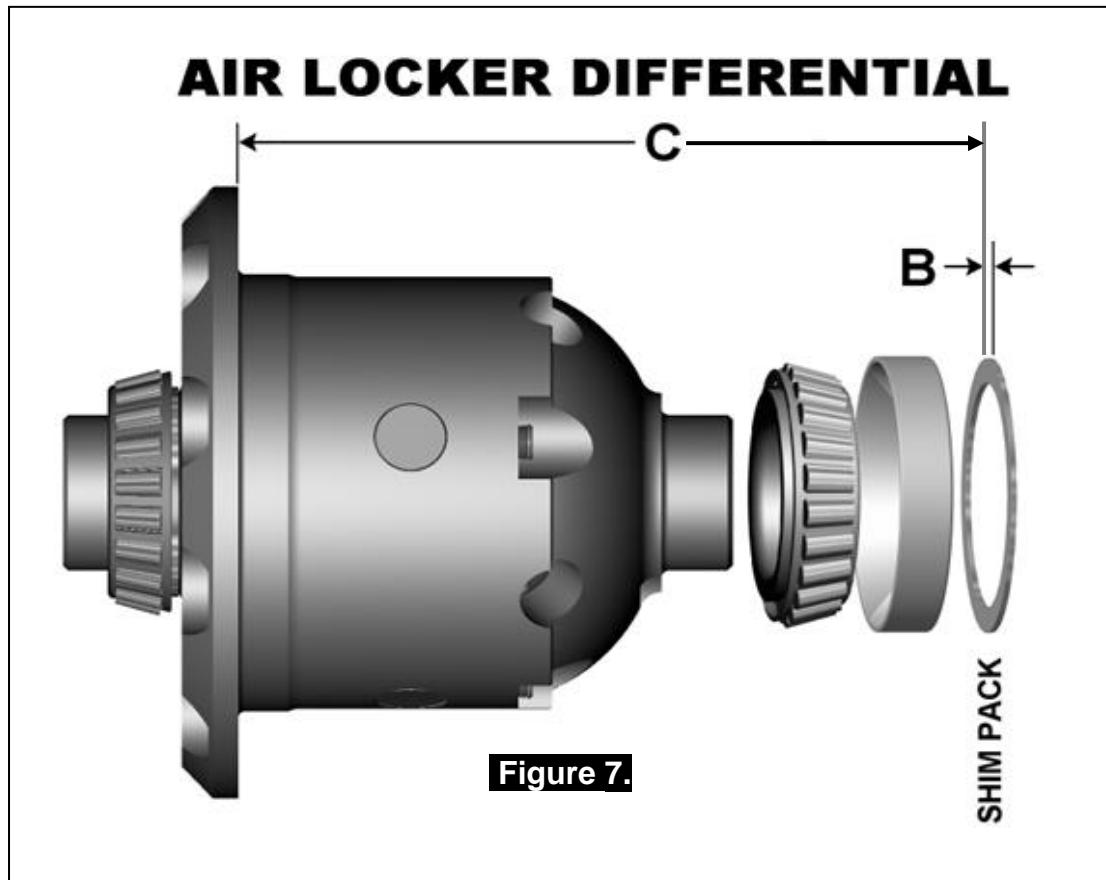
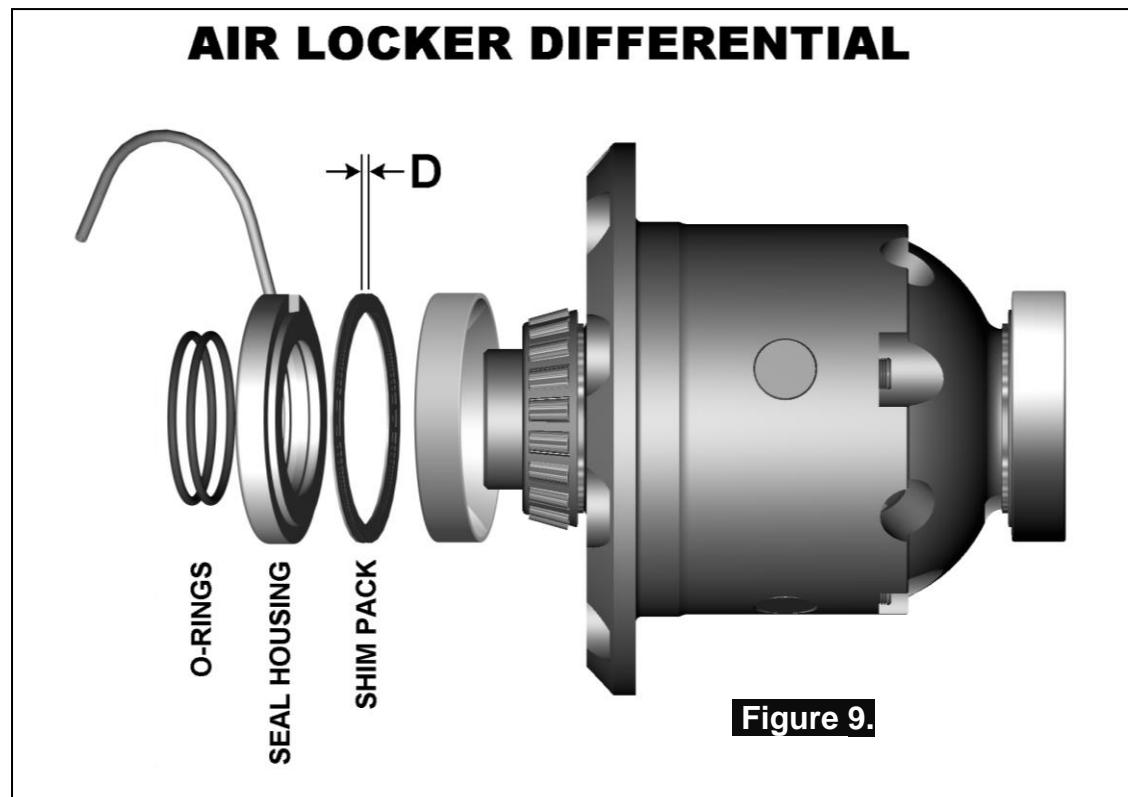

Figure 7.
Figure 9.
- Assemble the new bearing cup onto the right-hand side of the *Air Locker* (as shown in Fig. 7.), and measure the distance from the
In order to pre-load the tapered roller bearings in your *Air Locker*, measurements need to be taken so that a value can be calculated for the shim thickness 'D' in Figure 9.
- Add the specified pre-load amount to the measurement taken with the feeler gauge to determine a shim amount for 'D' in Figure 9.
- Install the shim pack 'D' between the bearing cup and the seal housing as shown in Figure 9.
- To decrease the amount of backlash, reduce the shim thickness 'B' (Fig.7.) and increase the shim thickness 'D' (Fig.9.) by the same amount. Reverse this step to increase the backlash.